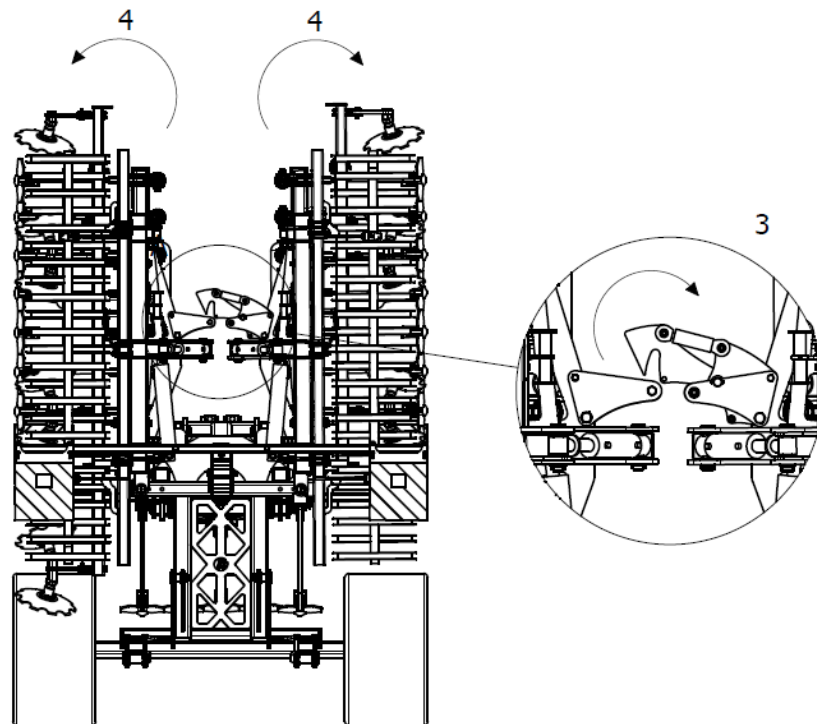

Fig. 14 Implement opening sequence: 3- release the hook of the hydraulic side extension lock mechanism, 4- open the implement side extensions.
3. Then, after making sure that the hook of the hydraulic side extension lock mechanism allows the machine side extensions to be unlocked, proceed to open them fully (Fig. 14).